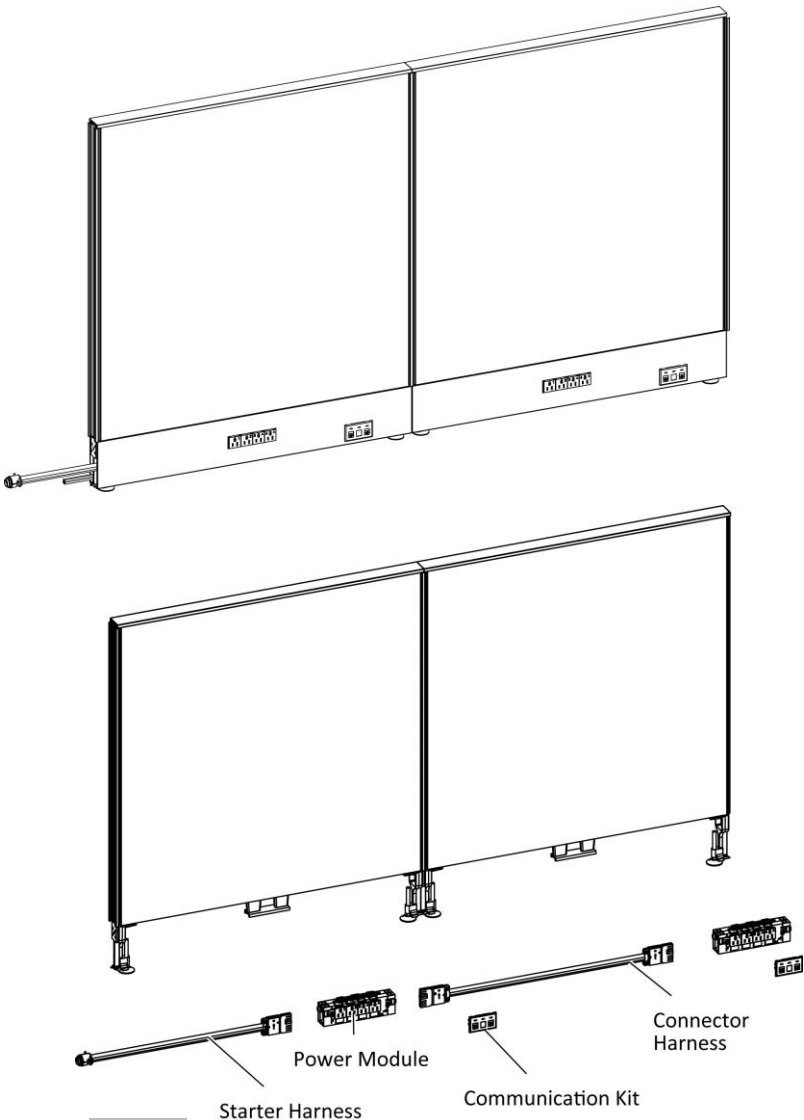

Figure 1
2. Lay them beside the panels that are to be electrified, (Figure 1).